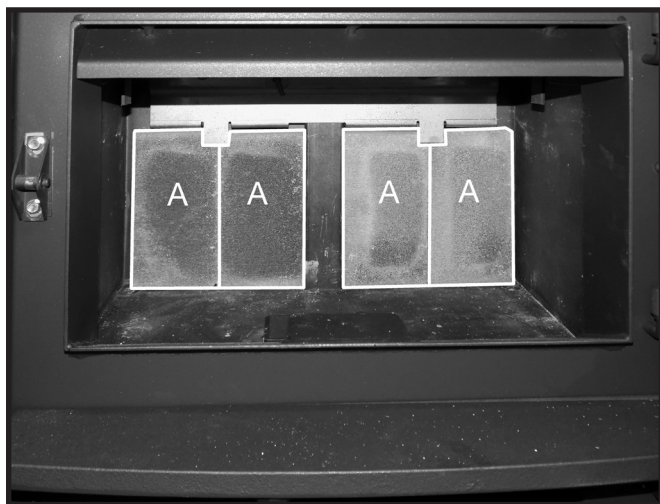

Figure 20: Remaining rear wall firebricks in place.
3. Repeat steps 1 & 2 for the placement of the other "A" firebricks on the rear wall (Figure 20).